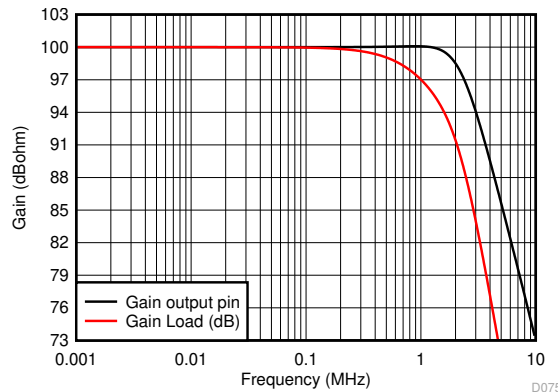

Figure 8-8. Small-Signal Response for 100-kΩ Transimpedance Gain
- Assume a nominal source capacitance value of 100 pF. This normally comes from the capacitance versus reverse bias plot for the photodiode. No reverse bias is illustrated in Figure 8-8, but the current source is typically a back biased diode with a negative supply on the anode and the cathode connected to the op amp inverting input. In this polarity, the signal current sinks into the diode and raises the op amp output voltage above ground.
Implementing this design and simulating the performance using the TINA model for the response to the output pin and to the final capacitive load shows the expected results of Figure 8-8. Here, the exact 2.2-MHz flat Butterworth response to the output pin is shown with the final single pole rolloff at 1 MHz at the final 2.2-nF capacitor.